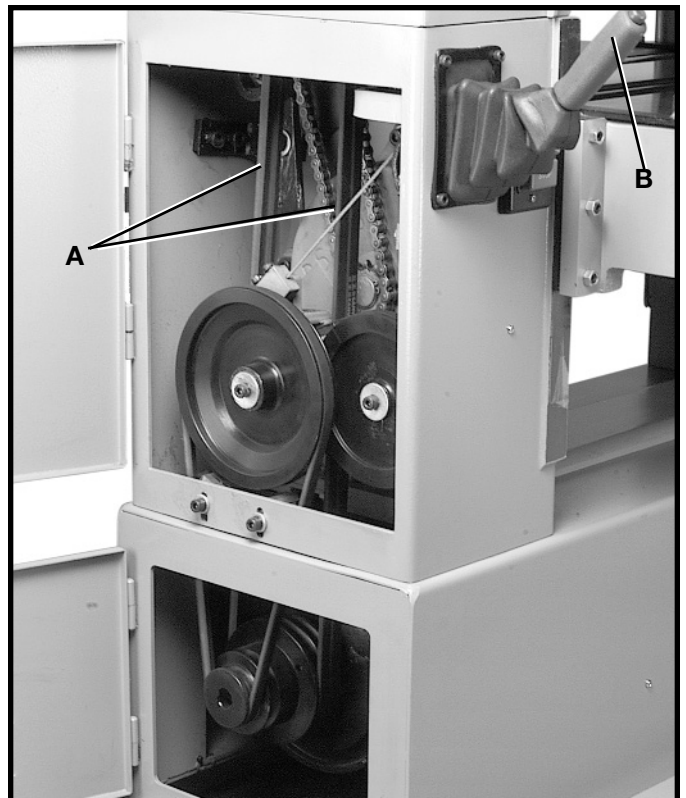

Fig. 28
Proper belt tension is when there is approximately $\frac{1}{4}$ " deflection, using light finger pressure on the drive belts (A) Fig. 28, midway between pulleys. If an adjustment is necessary, proceed as follows:
- Disengage feed roller lever (B) Fig. 28.